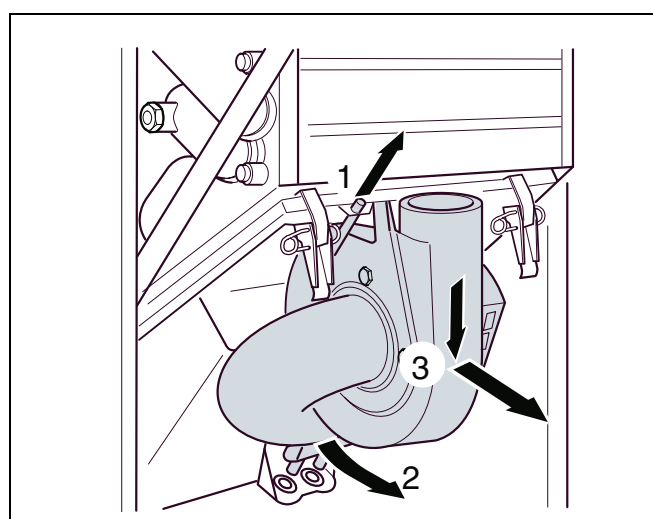

fig. 58 Removing the fan
- Push up the fan (fig. 58, item 1).
- Pivot the lower end of the fan forward (fig. 58, item 2) and take it out downwards and forwards (fig. 58, item 3).